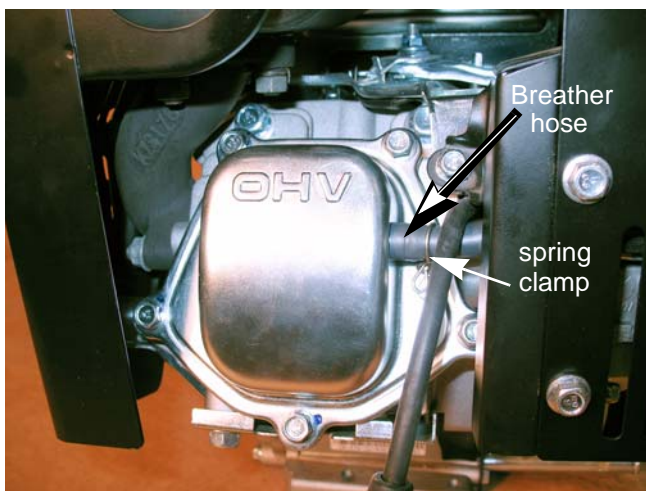

Figure 1.9
4. Disconnect the breather hose from the valve cover. See Figure 1.9.